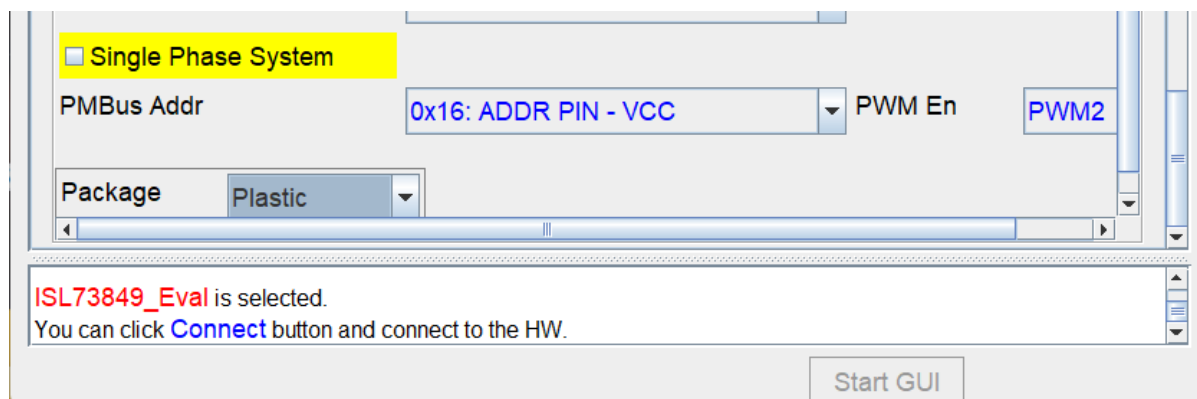

Figure 6. Package Selection
17. Scroll to the bottom of the **DevParaPanel** window and in the Package drop-down list click **Plastic** as shown in Figure 6.